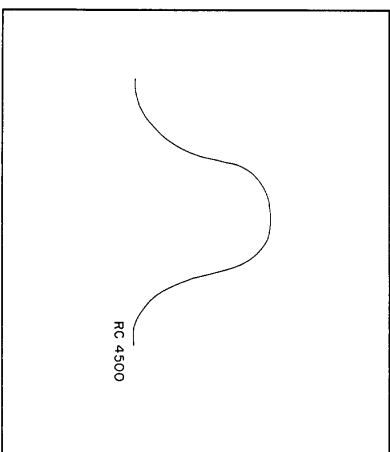

Figure 7 - Idealized IF Waveform
6. Adjust the AM output level to make sure the scope is triggering. Adjust the RF input signal level to keep the IF passband sweep pattern just below saturation (typ. 2  $\mu$ V). After using the vertical and horizontal positioning controls to center the waveform, check for a scope pattern similar to the one shown in Figure 7.